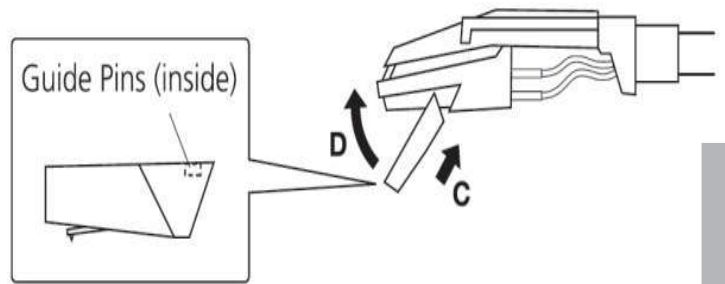

Fig 8
4. Hold the tip of the new stylus, align the guide pins as shown and clip into position (fig 8)